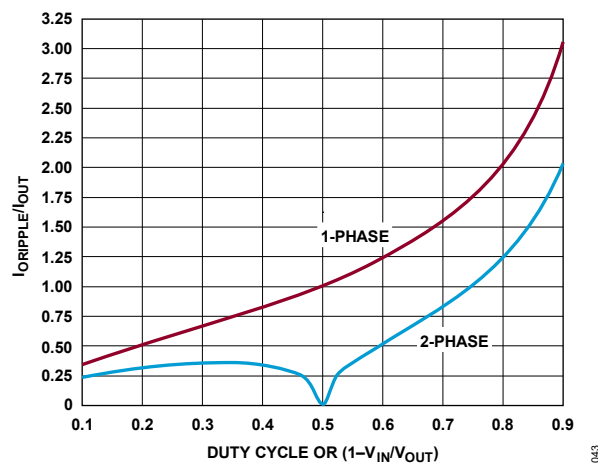

Figure 43. Normalized Output Capacitor Ripple Current (RMS) for a Boost Converter
The ripple current requirements for the output capacitor shown in Equation 14 can be reduced in a 2-phase configuration, as shown in Figure 43. Figure 43 illustrates the normalized output capacitor ripple current as a function of the duty cycle in a 2-phase configuration compared to a single-phase configuration. To choose a ripple current rating for the output capacitor in a 2-phase configuration, use the following steps:
2. As shown in Figure 43, choose the worst-case high normalized ripple current as a percentage of the maximum load current.